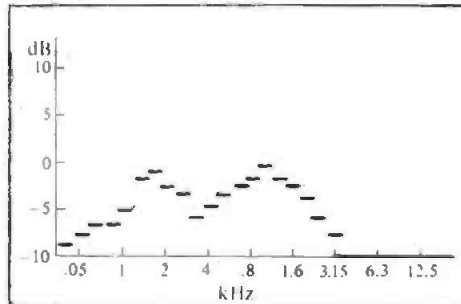

Figure 1. Typical two-way system's acoustical response, before equalization.
• The move to upgrade theater systems through equalization came about largely through the efforts of Dolby Laboratories. During the early seventies, when Dolby noise reduction was being introduced into the post-production phases of filmmaking, it was found necessary to equalize both the systems used in dubbing theaters and in theaters across the country if the benefits of noise reduction were to be fully appreciated. What was found in the field typically looked like FIGURE 1. In many cases, the theater systems were underpowered, and attempts to even-out their response called for larger power amplifiers.